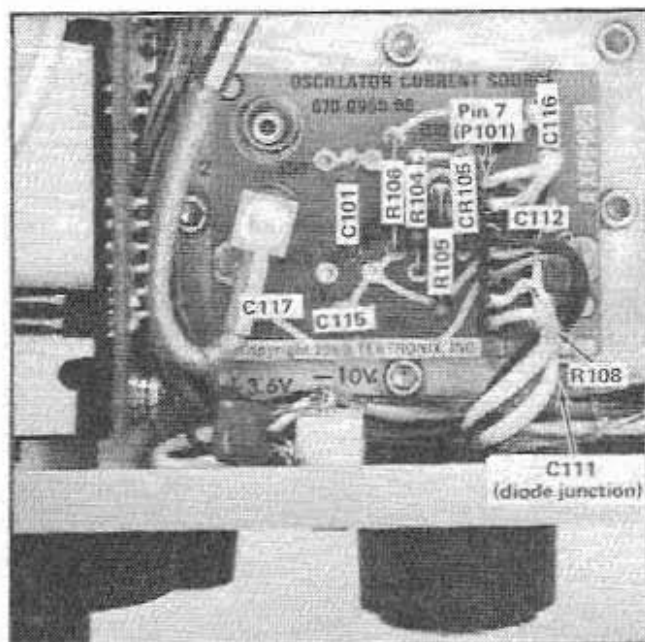

Fig. 6-15. Oscillator current source circuit board showing location R108 (C111) and P101 (Gate Calibrator board removed).
12) Check the voltage difference between the ends of resistor R108, (Fig. 6-15) on the oscillator current source board, with a DC coupled probe. Voltage difference should equal about 0.5 volt. Re-adjust R850 and R800 if necessary. (This voltage indicates the current drawn by the variable capacitance diodes in the oscillator circuit.) The amount of compensating current required for optimum frequency span linearity can only be determined when adjusting the sweep shaper reverse compensation in step b.